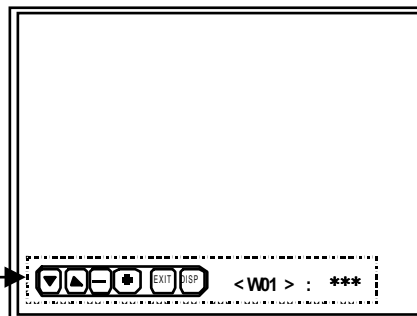

Fig.13
- ① In the WHITE BALANCE menu screen, press the **VOLUME/SELECT** **+(UP)** key, then enter to the "W01" adjustment mode (Fig. 13).
- ② Whenever press the **CHROMA/PHASE** key, change the adjustment mode from W01 to W24. And change the adjustment value by pressing the **VOLUME/SELECT** (**-** or **+**) keys.